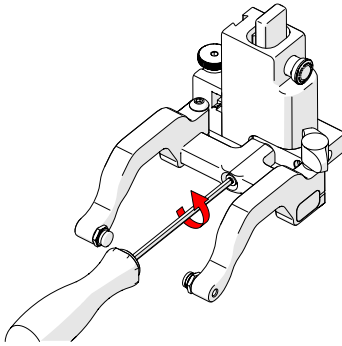

Fig. 96 - Remove yoke
1. Using the supplied 3 mm driver, unscrew the yoke (Fig. 96).
1. Remove the yoke using the supplied 3 mm hex driver (Fig. 96).